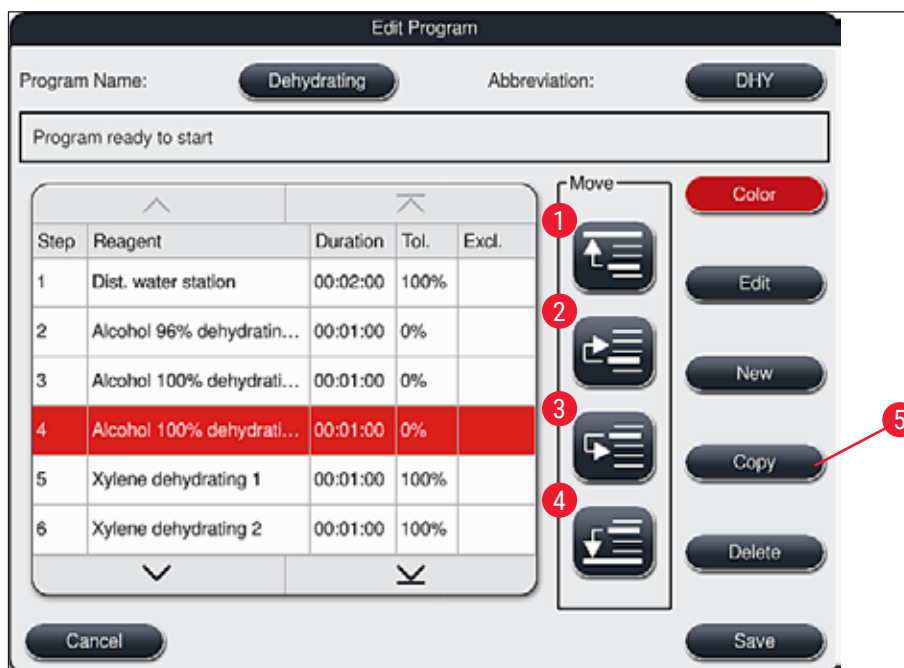

Fig. 49
- The **Edit program step** window (→ "Fig. 49") opens.
- Using the **Save** (→ "Fig. 49") button, the changes are accepted. Press the **Cancel** button to discard the changes.